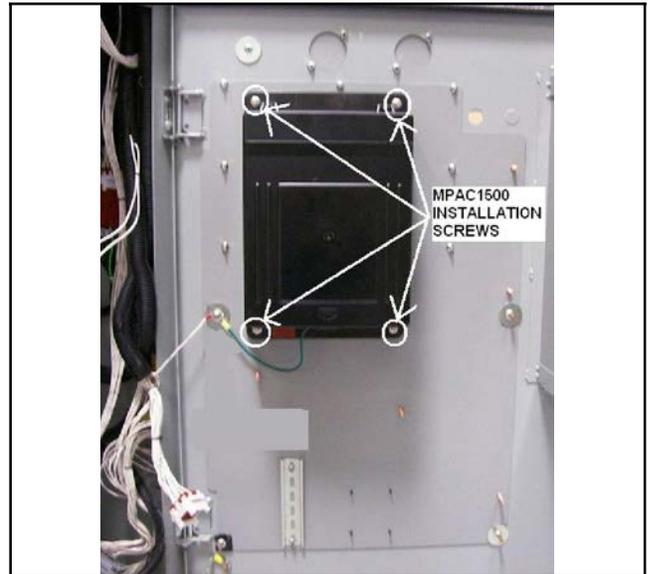

Figure 25 Controller Assembly Installation
20. Install MPAC™ 1500 controller assembly GM46733-1 onto the conversion kit mounting plate using four nuts X-6210-2. See Figure 25.